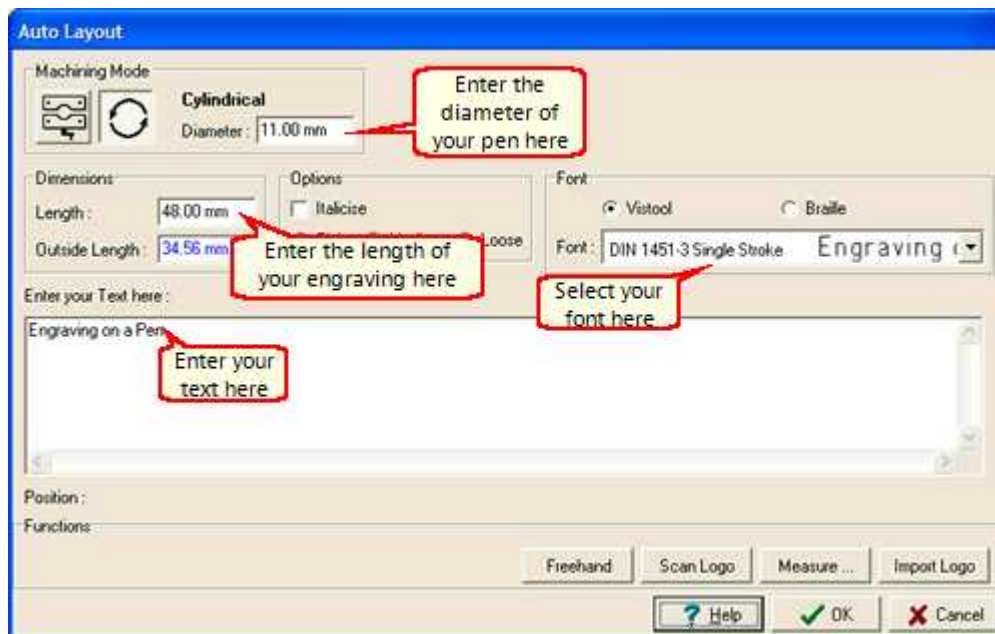

Figure 1
- 4 Select the Font you wish to use, by Left Clicking On the arrow on the Fonts Box, see Figure 4 and scroll through the list until you find the Font you wish to use then Left click on its name, see Figure 1.